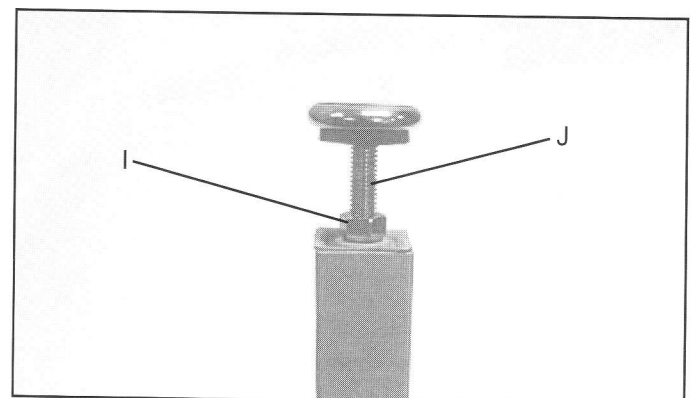

Fig. 18
8. Assemble the 3/8" jam nut (I) onto leveling screw (J). Thread leveling screw into foot adapter. Fig. 18 illustrates the foot leveling assembly on the table leg. assemble the remaining foot assembly to the other leg in the same manner. **NOTE: Height adjustments will be made later.**